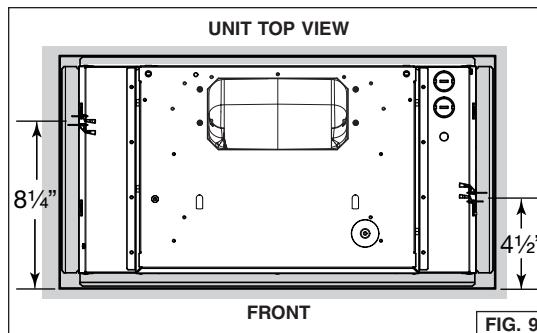

FIG. 9
- Pay attention to the Ease of Install hooks location on the unit (distance given from unit front flange, FIG. 9). Measure and mark the position of the Ease of Install hooks (shown as **E** in FIG. 10 on next page) on both cabinet side walls.